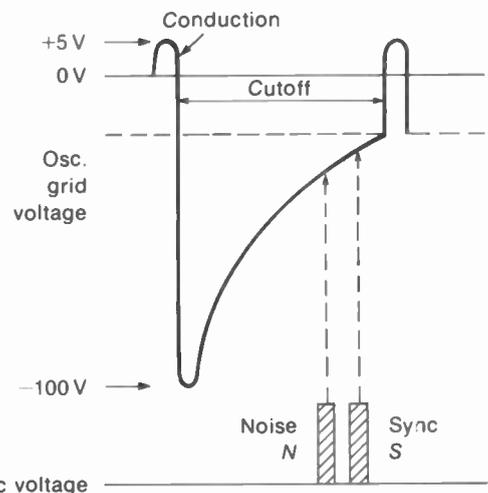

FIGURE 16-13 HOW OSCILLATOR CAN BE TRIGGERED INTO CONDUCTION BY A NOISE PULSE INSTEAD OF THE SYNC PULSE.
Noise pulses are produced by ignition interference from automobiles, arcing brushes in motors, and by atmospheric static. The noise is either radiated to the receiver or coupled through the power line. Especially with weak signal, the noise can act as false synchronizing pulses. In the vertical circuit, the noise pulses can trigger the vertical oscillator too soon. See Fig. 16-13. Then the noise makes the picture roll temporarily, until the sync locks in the oscillator again. For horizontal synchronization, the noise can be mistaken for horizontal sync pulses. Then the picture tears into diagonal segments during the loss of horizontal sync.
**How noise triggers an oscillator.** Figure 16-13 illustrates the effect of a noise pulse in the sync voltage. Consider this example for a vertical oscillator using a vacuum tube for a blocking oscillator or a multivibrator. The oscillator is held cut off by its own grid voltage for a relatively long
It should be noted that, without the noise, the grid voltage in Fig. 16-13 would be normal, remaining beyond cutoff until the sync triggers the oscillator. This means that canceling the noise pulses is the best way to eliminate the effects of noise in the sync.